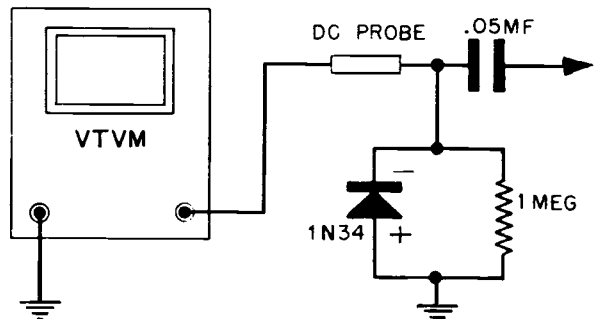

FIGURE 8. ELECTRONIC VOLTMETER CONNECTIONS
2. Connect the electronic voltmeter and germanium crystal rectifier, as shown in Figure 8, to the plate of the 2nd video amplifier, V-12 (12AU7, pin 6). Use the lowest voltage scale on the meter.